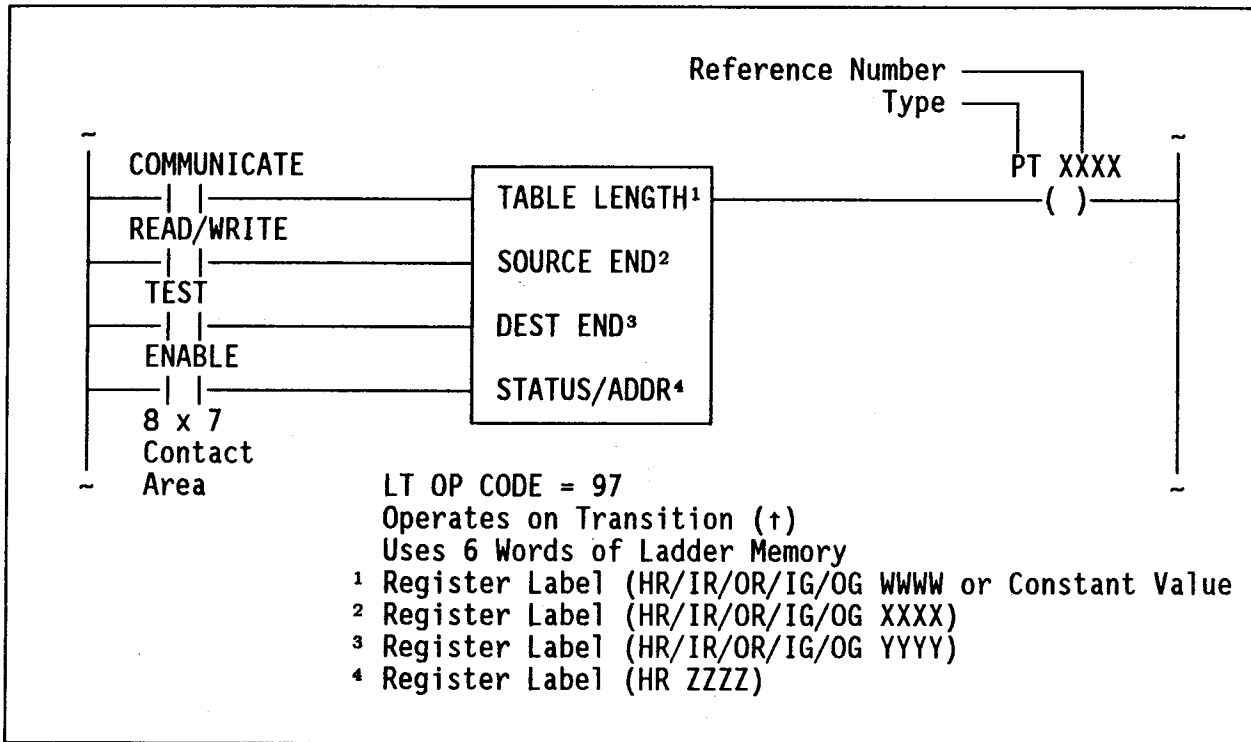

Figure 1. Port Transmit (PT)
Port Transmit (PT) designates the master PC on a Multi-Point network. The Master PC can read registers from and write registers to any Slave PC connected to the network. The user controls the communications through the ladder program in the Master by manipulating the PT function. Refer to Figure 1.